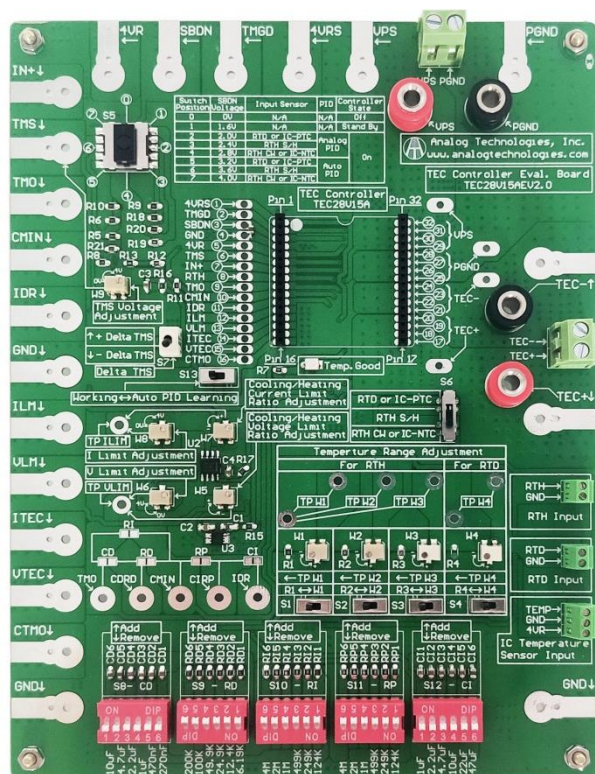
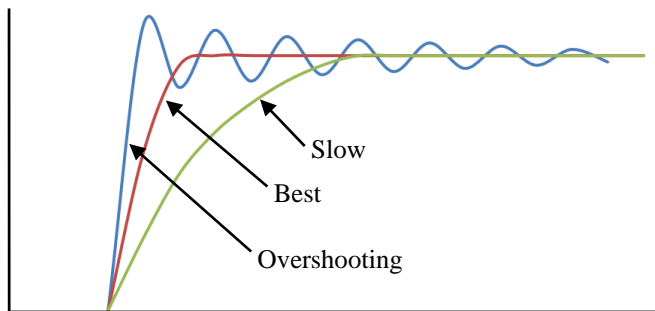
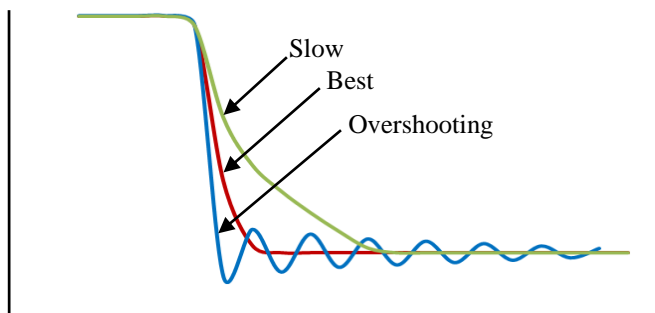

Figure 1. The physical photo of TCE28V15AEV2
Figure 11. Rise Waveforms of IDR
Figure 12. Fall Waveforms of IDR
The TEC28V15AEV2 Evaluation Board is consisted of a complete application circuit for driving a TEC controller. It can set the output current, the output current limit, has an LED for indicating the working status of the controller, has numerous connection pads and terminal connectors for making connections with external components and instruments. Its physical photo of TEC28V15AEV2 is shown in Figure 1.
3. In the PCB shown in Figure 1, there is an error in the function selection table of switch S5. See Figure 4 or Table 2 for the correct table.
Hook up the power supply, TEC and thermistor. There are 2 solder pads in the upper right area on the edge for connecting the DC power supply voltages. The connection can be done by clipping or soldering on the pads. Usually the power supply is set from 5V to 28V, a power supply of about having higher voltage than the maximum output voltage. There are also 2 solder pads in the upper right area on the edge for connecting the TEC terminals in the right polarity as indicated onto the board. Connect the thermistor terminals to the board, there is no polarity requirement. On the top of the board, there is the switch bank S5, which is used for adjusting S5 to achieve different functions, in Table 2. At the same time, adjust the position of S6 with S5. There is an IC port on the bottom left of the edge for IC temperature sensor input. The switch of S7 is used to adjust the compensation network of temperature control loop by inputting a square wave disturbing signal in temperature input point, which enables the system to generate corresponding response waveform. At this time, observe the waveform change by oscilloscope, and adjust and optimize the compensation network of the temperature control loop so as to achieve the best waveform at the same time. Response waveform is achieved by measuring IDR with oscilloscope, as shown in Figure 11 and Figure 12. The compensation network components consist of  $R_I$ ,  $R_D$ ,  $R_P$ ,  $C_D$  and  $C_I$ , which will be adjusted by S8, S9, S10, S11 and S12. These connections can be done by clipping or soldering on the pads, see Figure 1. Check the evaluation board connections, making sure that they are all correctly connected.